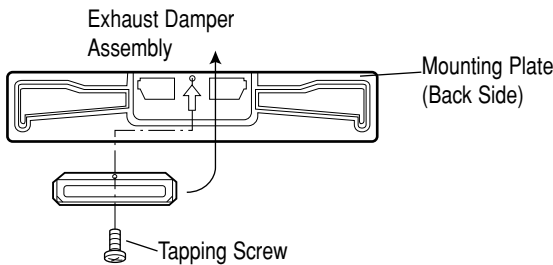

Figure 12
6. Attach the Exhaust Damper Assembly to the back of the Mounting Plate by sliding it into the slits in the same direction as the arrow. See Figure 12. Use Tapping Screw 4 X 12 from the INSTALLATION HARDWARE and tighten into place.